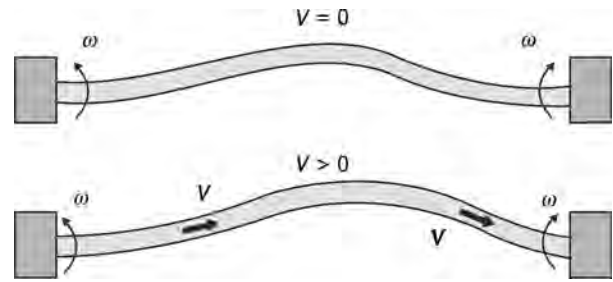

FIGURE 4.28 Single straight tube Coriolis mass flow meter.
- Figures 4.28–4.30 illustrate single- and two-tube Coriolis flow meters: